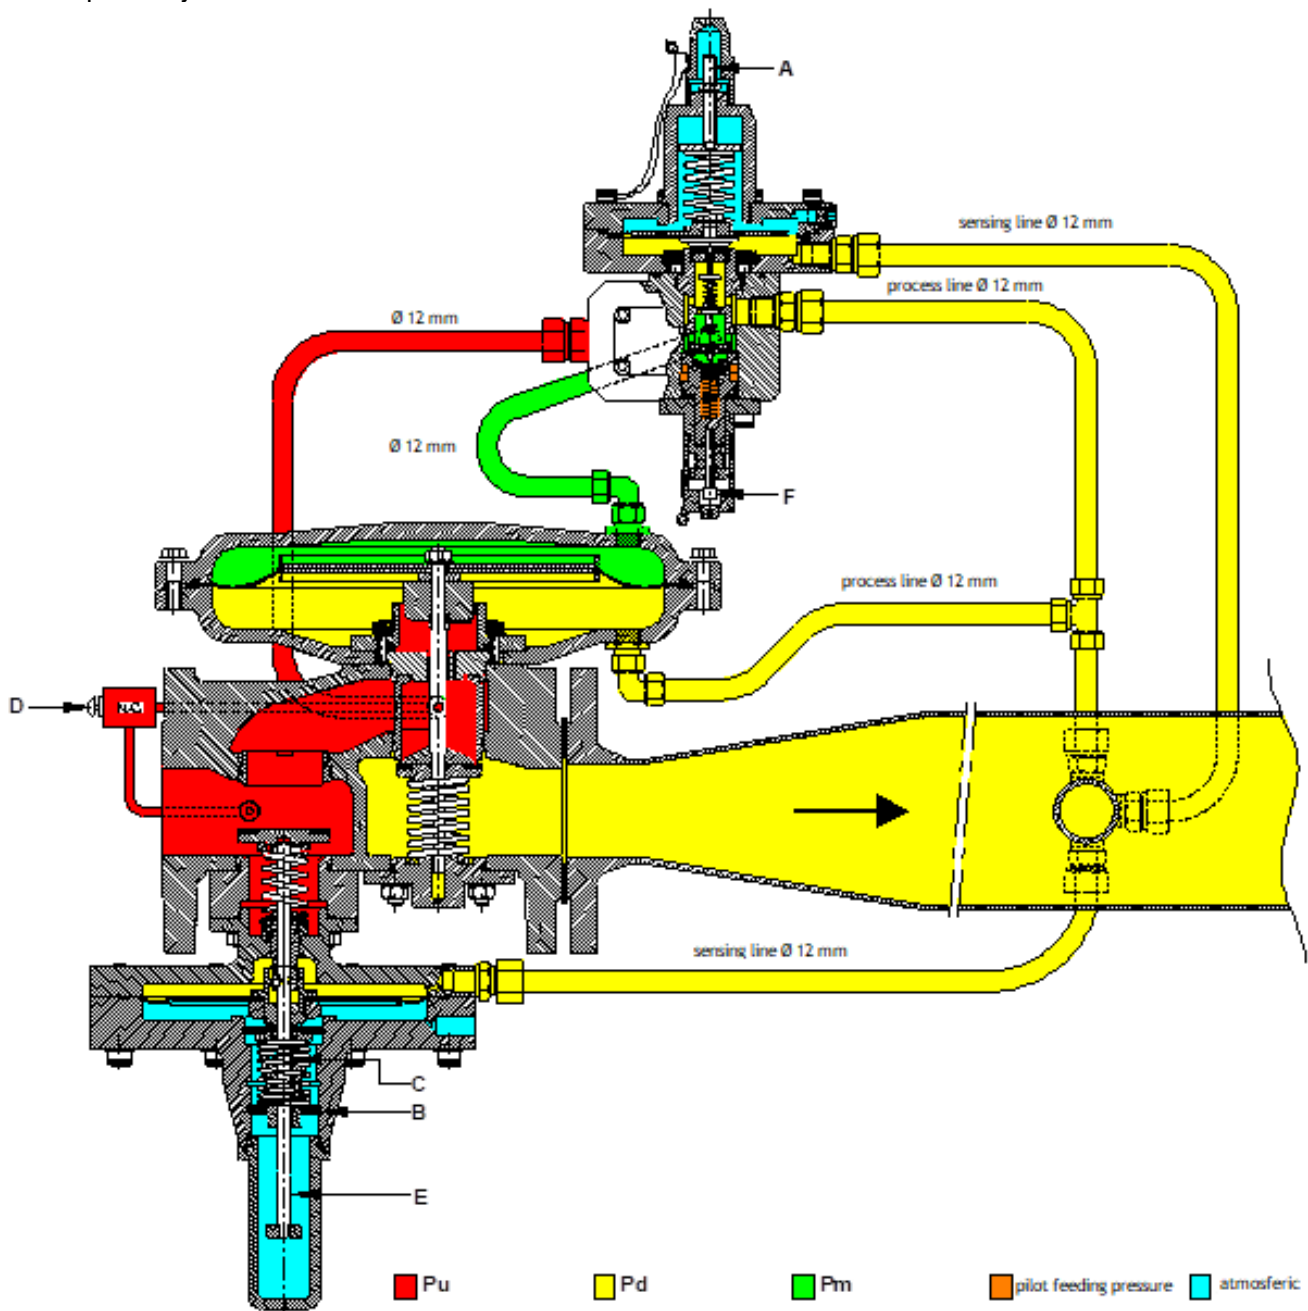

Figure 2
If the inlet pressure  $P_u$  is present (increase the pressure slowly), the pressure difference over the safety shut-off valve can be slowly released by actuating the pressure equalization valve on the body of the gas pressure regulator (see figure 2, item D).
The schematic cross-sectional area of the gas pressure regulator (figure 2) indicates the positions of the controls by which the gas pressure regulator can be set or operated.
The response value of the minimum pressure protection, if any, is a fixed value (see label). If an existing minimum pressure relief valve is undesirable, it can be deactivated by removing the minimum spring (see C in figure 2). This can be accomplished by fully unscrewing the underlying bushing, removing the spring, and fully turning the bushing back in again.
Adjusting the pilot can be carried out once the regulator has been put into operation (see chapter 3). The pilot of the RS350S has only **one** setting at which the operation is optimal. This setting is within about half a turn of the adjusting device “F” (see figure 2) relative to the zero point at which the pilot regulator is set at the factory.
- Pressurize the regulator. Check the pilot feeding pressure when "A" (see figure 2) is screwed in (Pilot delivers pilot pressure), and when "A" is fully screwed out (closing pressure pilot). The measured values shall correspond respectively to 300 mbar  $\pm$  50 mbar.